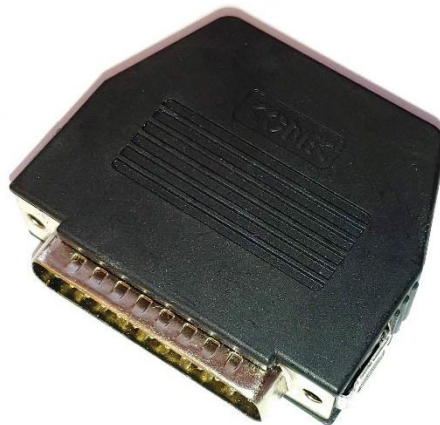

Fig. 3: Interlock connector
Auxiliary interlock connector (AUX) can be used for connecting of E-STOP button or external safety system optionally. The type of external contact must be normally closed (NC), floating potential or isolated. If external system is not used, delivered interlock connector (see Fig. 3) with internally closed interlock contacts must be used. The housing contains clamps, where user can connect cable to external system. If interlock contacts are opened, potentiostat reports an error and power output is disconnected.